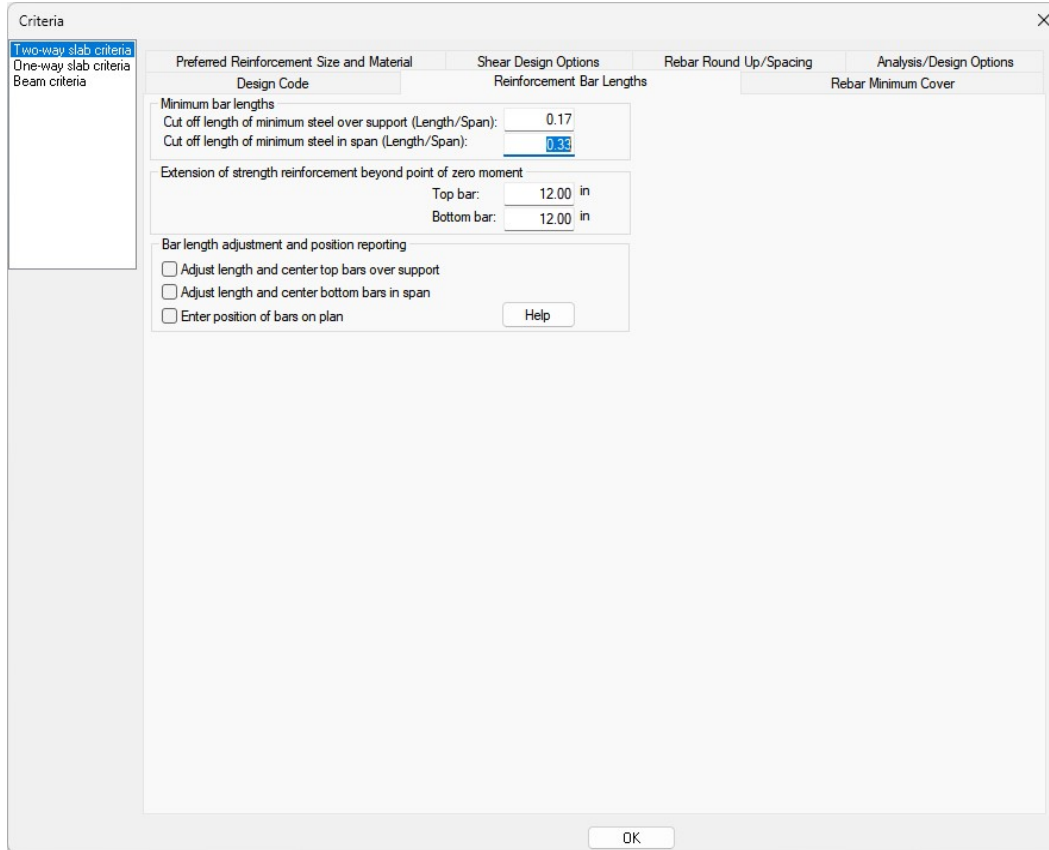

Figure 2.2-2 – Criteria: Reinforcement Bar Lengths tab
- Click on the **Reinforcement Bar Lengths** tab. This will open the window shown in **Figure 2.2-2**.